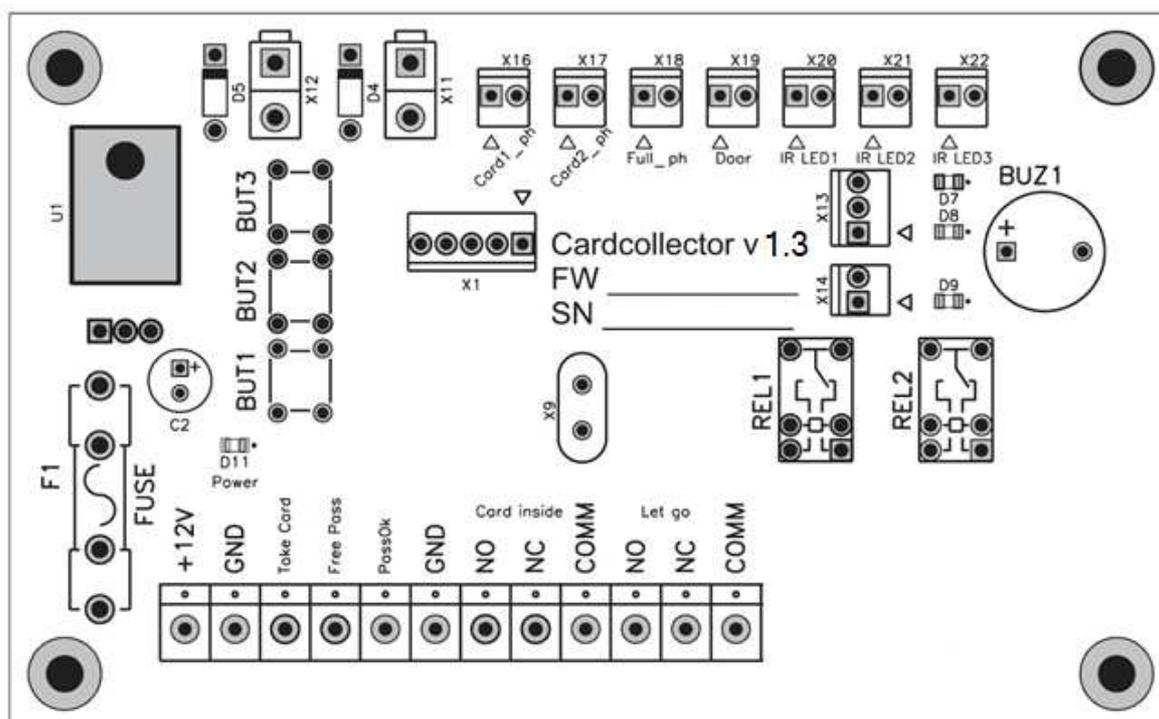

Fig. 5. General view of board
- Press and hold BUT1 button on the board of the card collector (Fig. 5). When the button is pressed shutter is open forcedly and a continuous audio signal is performed;